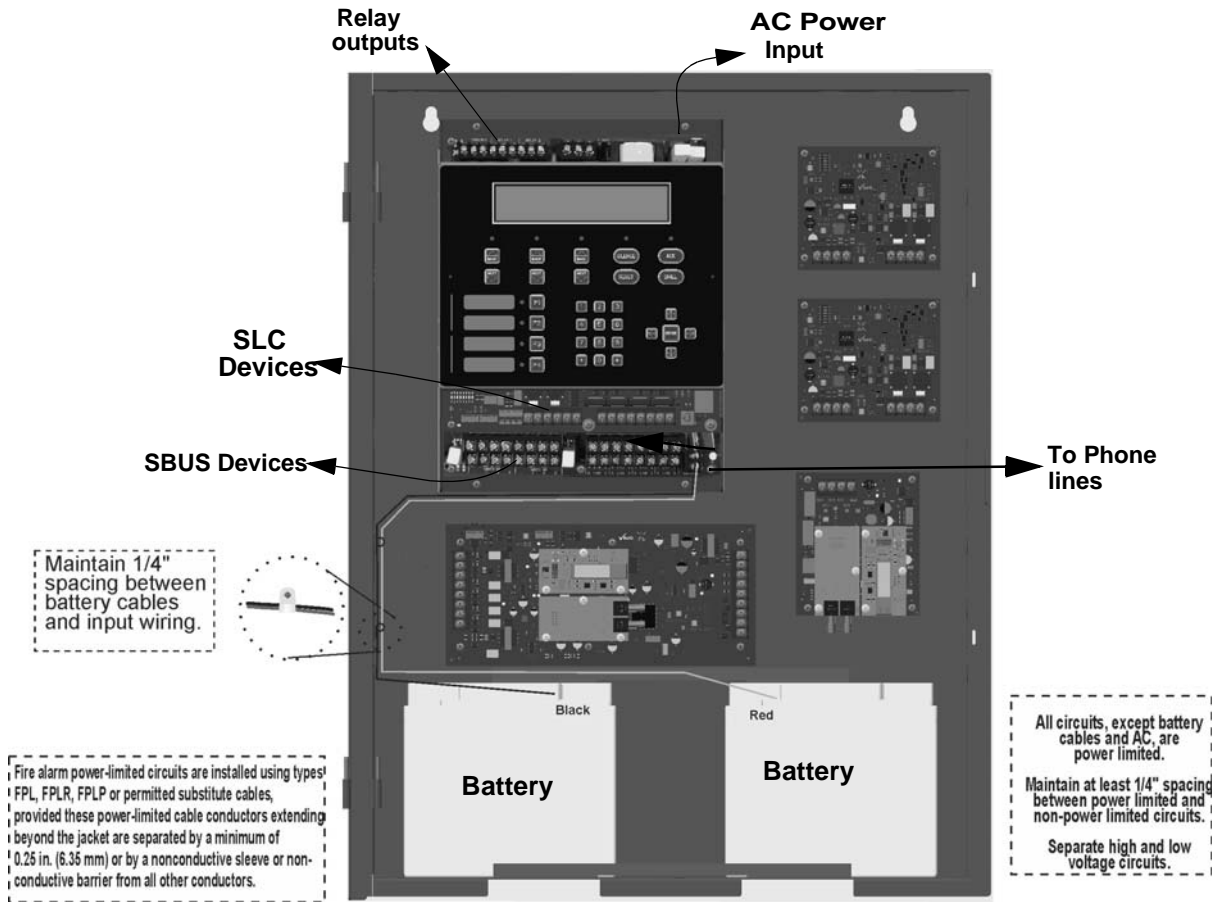

Figure 3-2 Wire Routing Example for IFP-2100ECS
- Route the wiring around the inside perimeter of the cabinet. It should not cross the circuit board where it could induce noise into the sensitive microelectronics or pick up unwanted RF noise from the high speed circuits. See Figure 3-2 for an example.